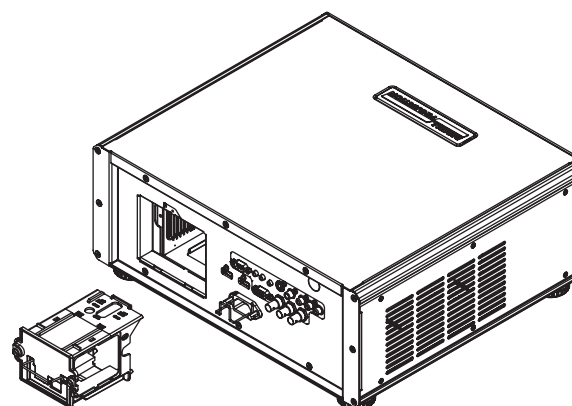

Fig. 2 Removing the lamp
4. Lift the wire handle up and use it to pull out the lamp module (**Fig. 2**).